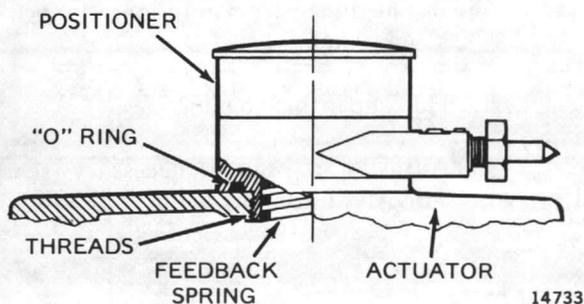

Fig. 5. Old-Style MP953A and B Positioner (Gradutrol Relay).
2. Unscrew positioner from actuator cover, taking care not to lose feedback spring (Fig. 5).